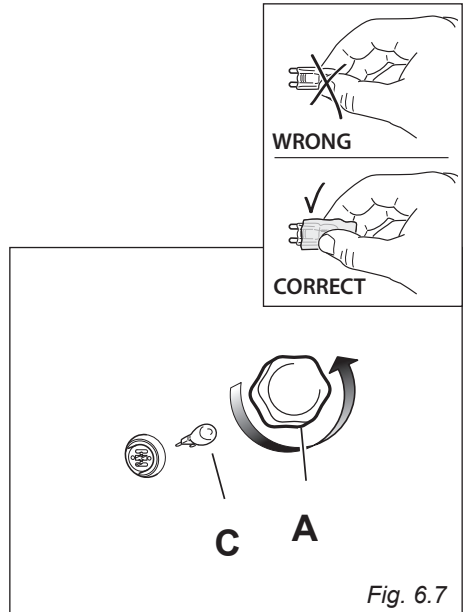

Fig. 6.7
- Remove the protective cover "A" (fig. 6.7).